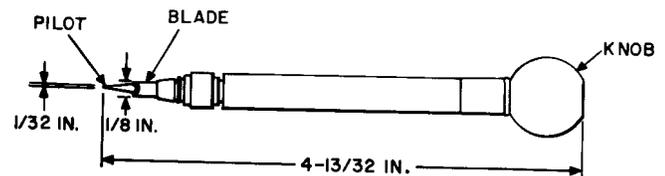

Fig. 2—KS-2348 Cord Repair Tool
2.06 KS-2348: The KS-2348 cord repair tool (Fig. 2) is used on keys for placing shell and binding screws on 109-, 110-, 309-, and 310-type plugs, and for repairing tinsel switchboard cords.